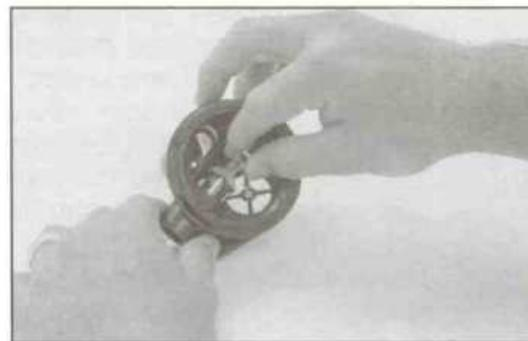

FIG 6-13
9. Refer to figure 6-13 as you lower the inlet tube valve assembly (15) into the regulator case (27), ensuring the demand lever is positioned correctly. Guide the inlet tube into the indexed (hex) tube of the case to the left, causing it to seat completely.